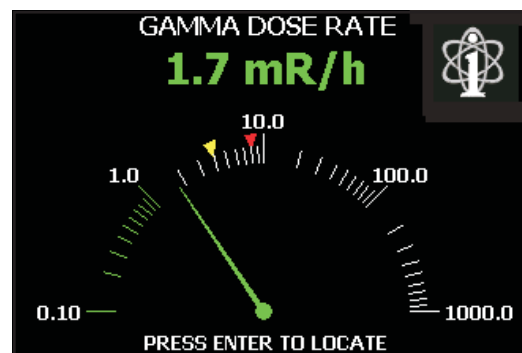

Figure 15 Log Dial Dose Display
- Log Dial – Displays the current Gamma Dose Rate on a logarithmic analog scale (Figure 15).
- Linear Dial – Displays the current Gamma Dose Rate on a linear analog scale (similar to Figure 15).